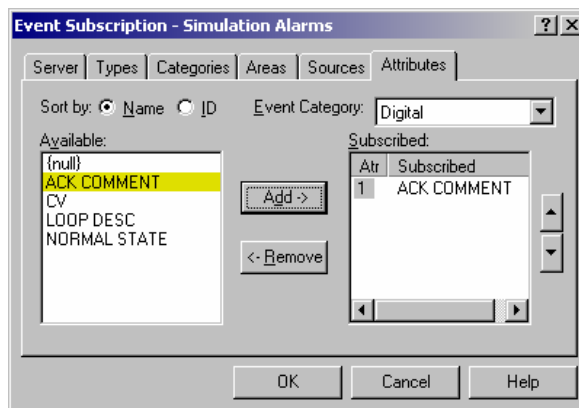

Figure A.47. Additional Attributes for Alarm Server
11. Click on the Attributes tab, shown in Figure A.47. Here you can tell the OPC Alarm and Events Server to send additional information about each alarm. For example, in Figure 4.47 the ACK COMMENT field has been added as Attribute 1. This will permit any comments the operator added during the alarm acknowledgement process to also be available to your multimedia templates for the notification messages to be sent out.